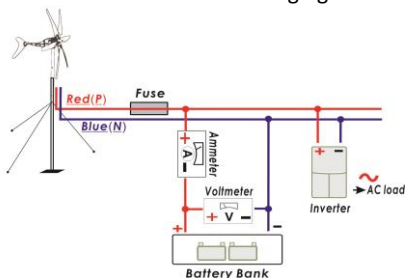

Figure 8: Connect the hybrid system
Please refer to Figure 8 when wiring. Voltmeter (50V rated) and ammeter (20A rated) can be used to test the turbine and the charging. The fuse is 20A.
- b. Disconnect the turbine from the battery and connect a voltmeter to the Red (+) and Blue (-) wires (Refer to Figure 8). Spin the turbine blades by hand and you should see a voltage up to 20V on the voltmeter. Voltage will depend on rotation speed and will not be stable. This is normal.